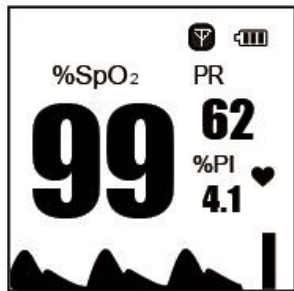

Figure 4.4 SpO2 measurement screen
4. The measured result will be displayed on the screen, as shown in figure 4.4. If the host device is connected to the device, then the measured result can be displayed on the screen of the host device by running APP software.